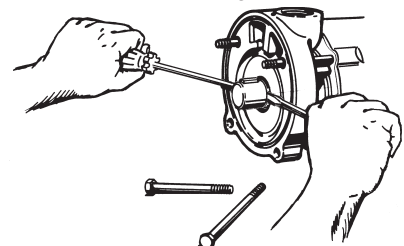

Figure 4-2
6. Remove the shaft sleeve (#17). The sleeve is a keyed fit and is removed using two large screwdrivers, Refer to Figure 4-2.